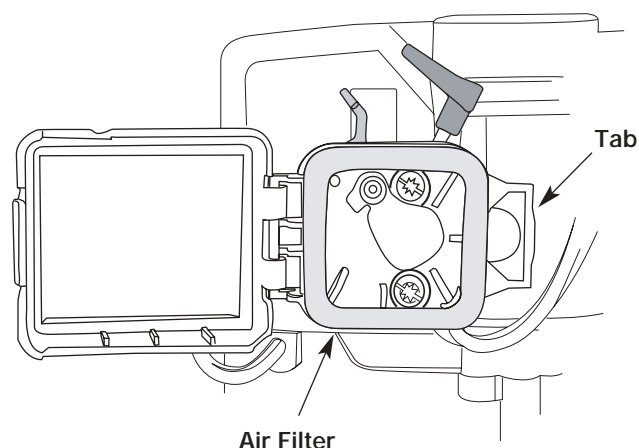

Fig. 8
2. Swing the air filter cover open. It will swing on the hinges to the left of the cover (Fig. 8).
3. Remove the air filter (Fig. 8).